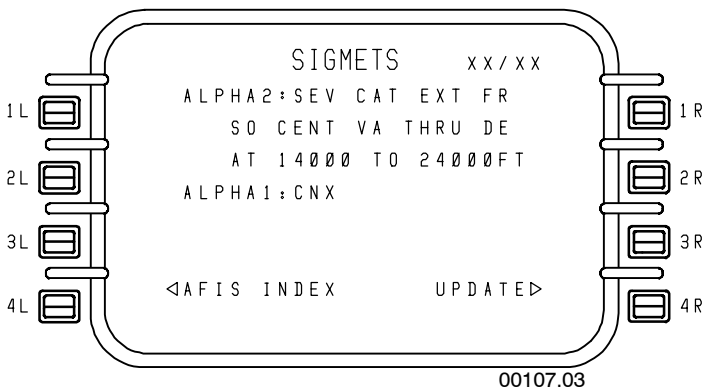

Figure 6-56
- **SIGMETS X/X** - Figure 6-56 is selected through the LOAD WX/WINDS page or through AFIS INDEX (3R). This is a **view only** page with the exception of the UPDATE option key. This key functions like the UPDATE function on the AVAIL WX REPORTS page.